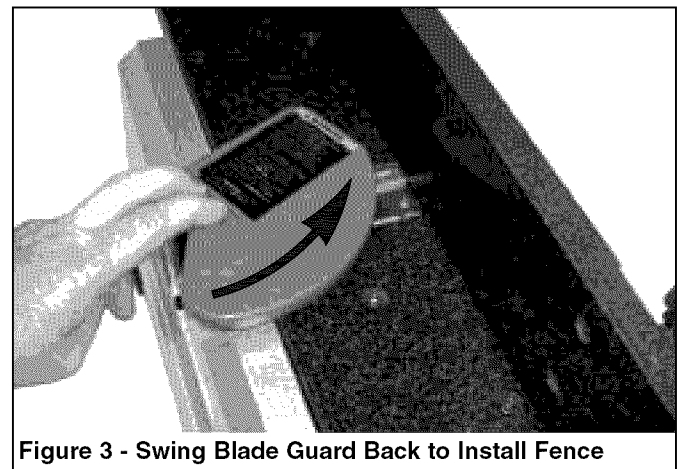

Figure 3 - Swing Blade Guard Back to Install Fence
- Attach fence assembly to jointer bed using four M6 x 12 screws and lock washers (B). Pull blade guard back so that fence can be properly fitted to jointer (see Figure 3).